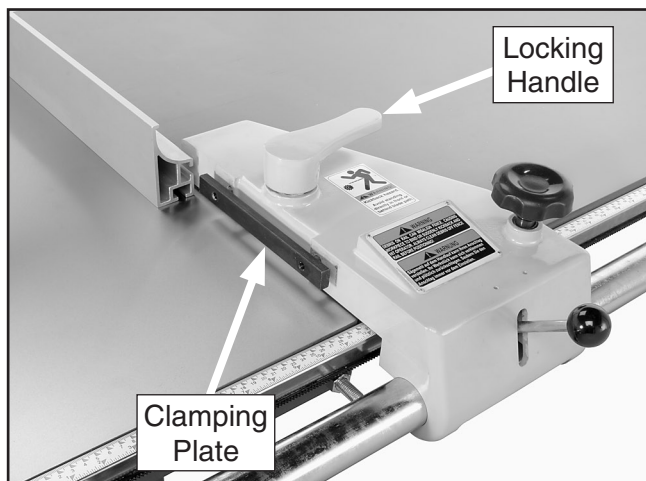

Figure 29. Installing the rip fence.
7. Slide the rip fence all the way onto the clamping plate (**Figure 29**) and secure it by rotating the locking handle on top of the rip fence body.